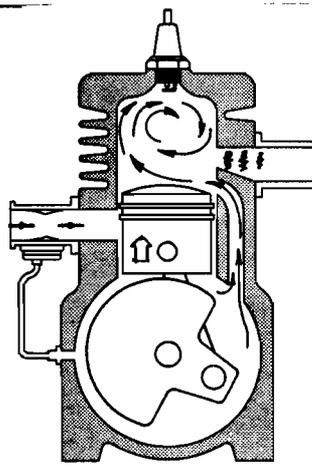

FIG. 4
2. **COMPRESSION:** Piston on the up stroke compresses the fuel-air mixture in the combustion chamber, and creates a lower than atmospheric pressure in the crankcase, which draws air through the carburetor picking up fuel and entering the crankcase. (Fig. 4)